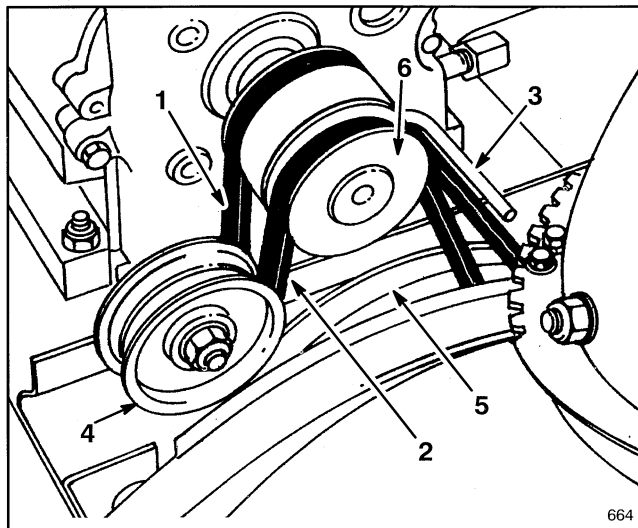

Figure 25
2. Screw (2)
3. Remove auger/impeller drive belt from engine pulley and large auger/impeller pulley (Fig. 25).
4. Install new belt around large auger/impeller pulley (Fig. 25). Next, loop belt over engine pulley, making sure that belt is on inside of idler pulley and belt guide (Fig. 25).
6. Reinstall belt cover with (2) screws.
4. Remove auger/impeller drive belt from engine pulley and large auger/impeller pulley (Fig. 25).
8. Set unit upright and remove traction drive belt from engine pulley and large traction pulley (Fig. 25).
9. Install new belt around large traction pulley. Next, loop belt over engine pulley, making sure that belt is on inside of belt guide (Fig. 25).
13. Reinstall auger/impeller drive belt around large auger/impeller pulley and engine pulley, making sure that belt is on inside of idler pulley and belt guide (Fig. 25).
14. Reinstall belt cover with (2) screws.